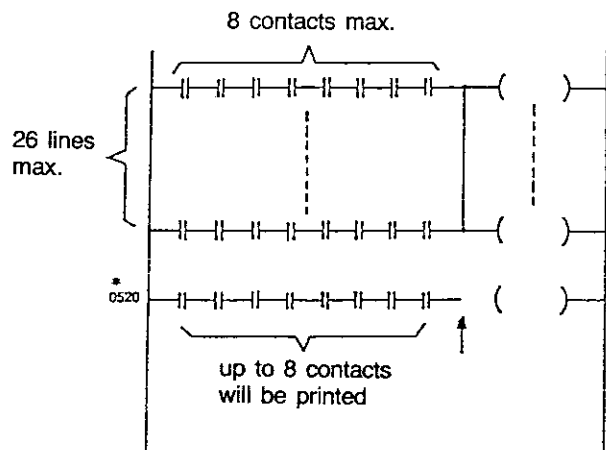

Figure 3.10
Example: A branch of a ladder diagram (LD) consisting of 10 contacts in series shall be printed out. Only the first 8 contacts are printed out. For marking an asterisk (*) is printed above the line number (s. figure 3.10).